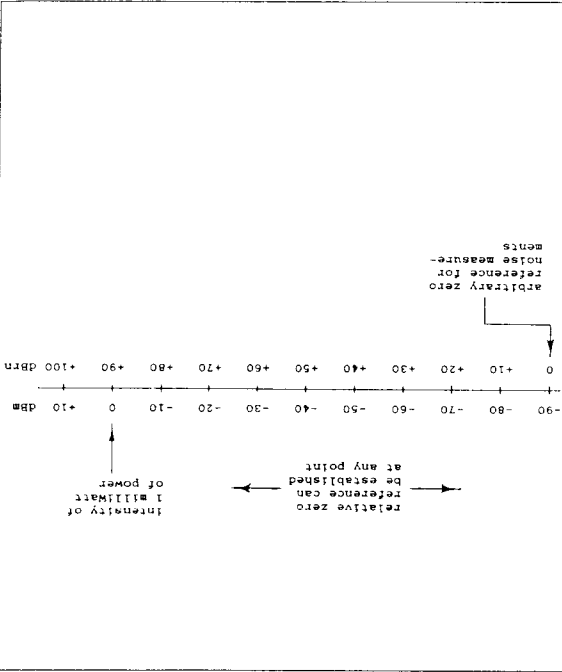

Figure 3-2. Level and Noise Units of Measurement
dBm, AM5XT only. The dBm unit is used in noise level measurements, "rn" meaning relative noise. Note in Fig. 3-2 that the zero reference for noise measurement has been established at -90.0 dBm, an extremely low level for a telephone line. Thus, noise measurements will always be positive (higher level) with respect to the 00.0 dBm reference.
00.0 dBm is defined as the level of one (1) *milliwatt* of power, hence the abbreviation "m" after the dB. Levels of less power than this reference point are negative, -dBm values, and levels of greater power are positive, +dBm values. See Fig. 3-2.